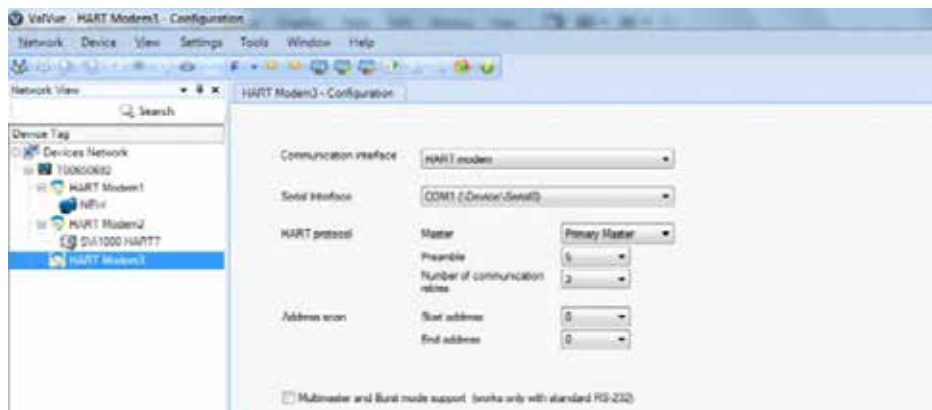

Figure 18 HART Modem Configuration Tab
2. Click **OK** again to add the *HART Modem* to *Network View* and Figure 18 appears.